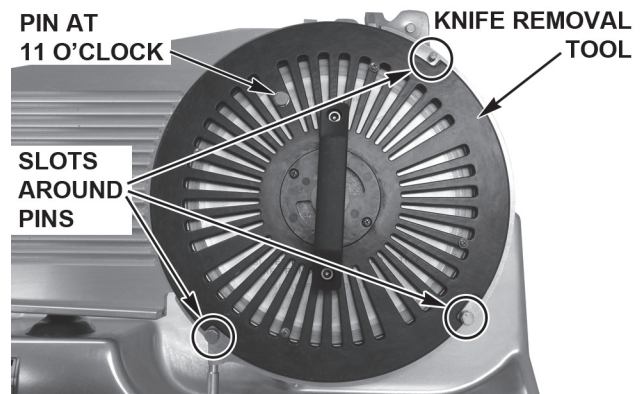

Fig. 18
- Place the Knife and Tool so the Pin on the Knife Removal Tool is at the 11 o'clock position (Fig. 18).
- Place the Slots on the Knife Removal Tool around the three Pins on the Ring Guard (Fig. 18).